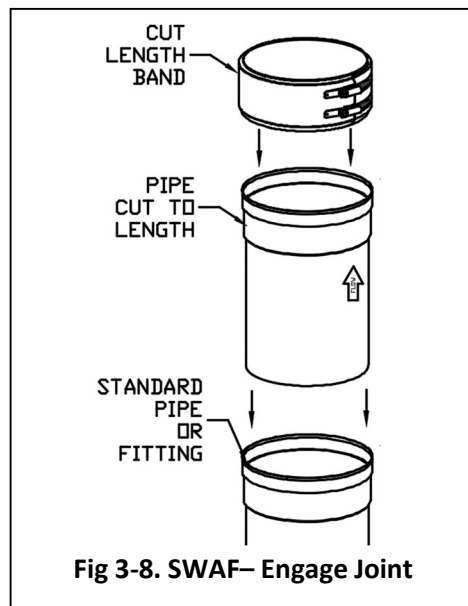

Fig 3-8. SWAF— Engage Joint
6. Engage Cut length until it bottoms out in the adjacent female socket. (See Fig 3-8).